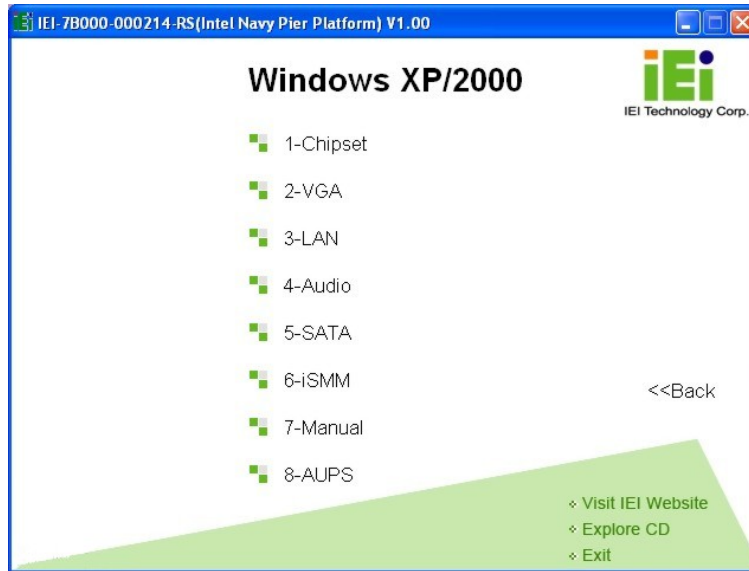

Figure 7-3: Drivers
Step 6: The list of drivers in Figure 7-3 appears.
- Step 1:** Access the driver list shown in Figure 7-3. (See **Section 7.2**)
Step 1: Access the driver list shown in Figure 7-3. (See **Section 7.2**)